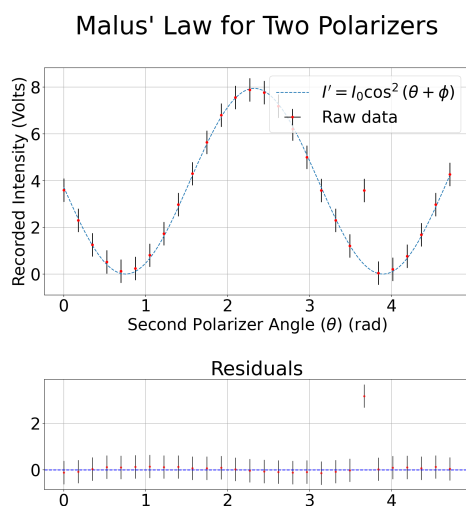
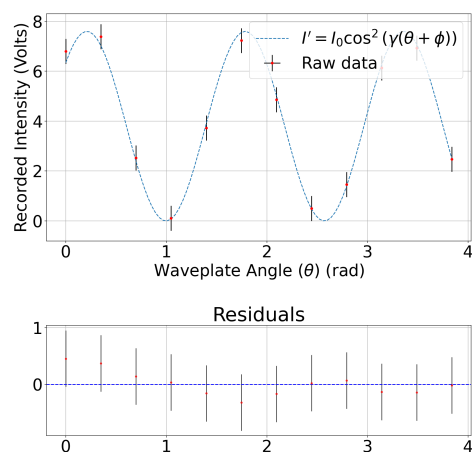

FIGURE 4: Voltage Output vs. Polarizer Angle. $\chi^2_{red} = 1.58$, $I_0 = 8.0 \pm 0.2$ V, $\phi = 0.82 \pm 0.02$
FIGURE 6: Voltage Output vs. Half Waveplate Angle. $\chi^2_{red} = 0.25$, $I_0 = 7.6 \pm 0.1$ V, $\phi = -0.21 \pm 0.01$, $\gamma = 2.00 \pm 0.01$
It can clearly be seen in Fig. 4 that the data adheres well to theory. All of the data points, apart from one outlier, falls well within the estimated uncertainty of the fitted curve given in (2). It should be stated that the χ^2 value of 1.58 is slightly high, however, the lack of a distinct pattern in the residuals indicate that this is a good fit regardless.
An interesting result can be observed in comparing Fig. 6 and Fig. 4. The recorded maximum intensity I_0 is almost (bar a factor $V = 0.4$ V) identical despite the polarizers being set at angles to pass the minimum amount of light. This implies that at $\theta = \frac{\pi}{2}$, the half waveplate effectively makes the second polarizer transparent.